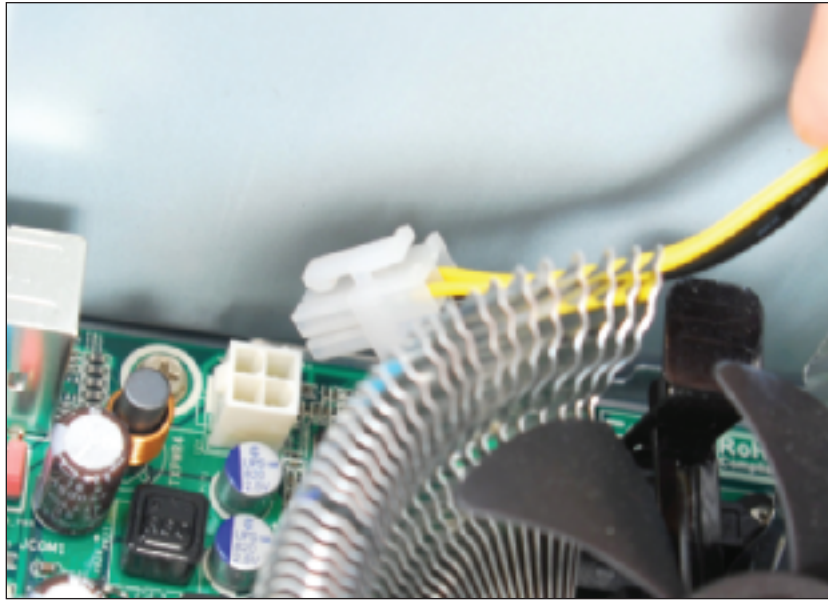

Figure 3-50 The auxiliary 4-pin power cord provides power to the processor
- ▲ Connect the 4-pin auxiliary power cord coming from the power supply to the motherboard, as shown in Figure 3-50. This cord supplies the supplemental power required for the processor.